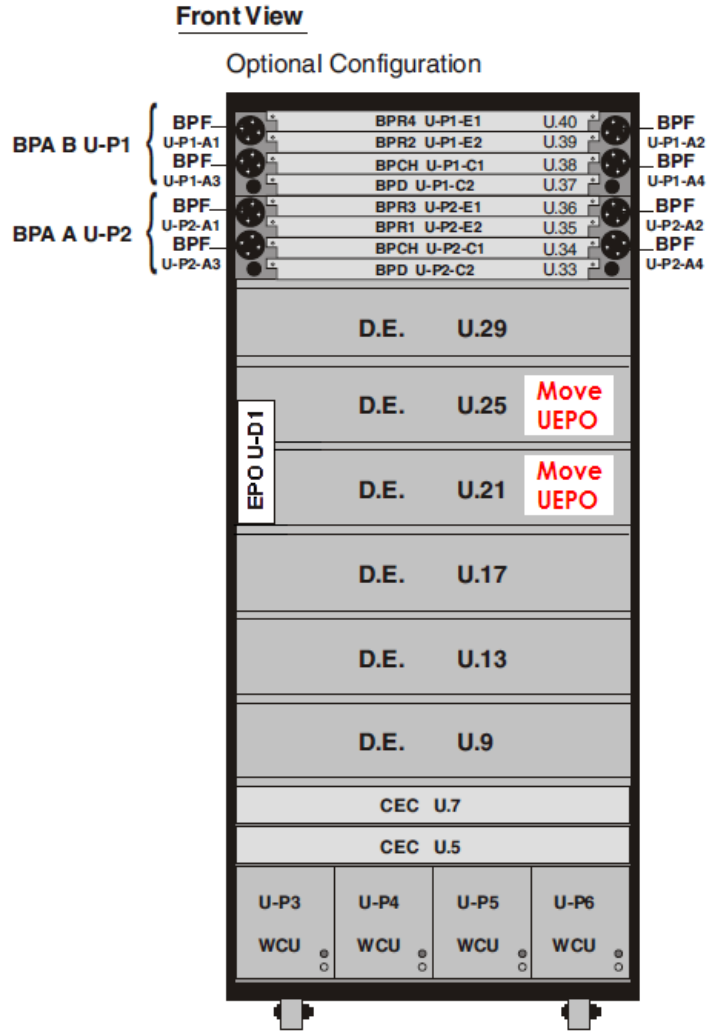

Figure 15: Disk Enclosure and UEPO Location Info.
- STEP 15 Is the Disk Enclosure being serviced located in U21 or U25 (see Figure 15)?